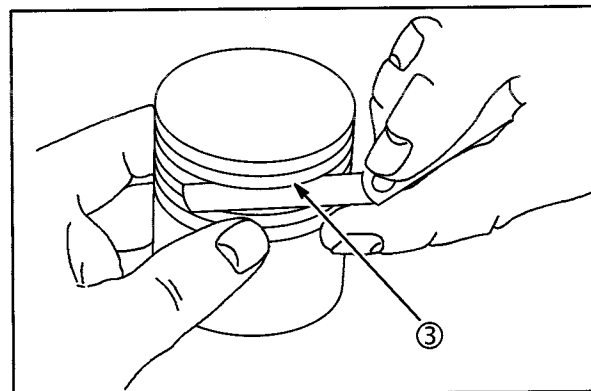

Fig. 3
1. Check side clearance of ring grooves using a feeler gauge and NEW piston rings (3), Fig. 3. Replace the piston if the ring groove is worn beyond specification.